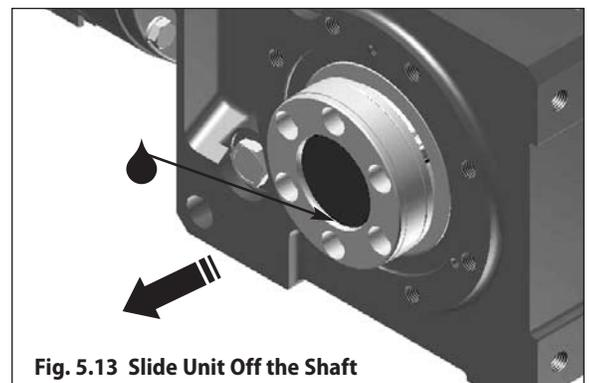

Fig. 5.13 Slide Unit Off the Shaft
**Step 6** – After releasing the bushing, apply a liquid penetrant to the shaft where it contacts the bushing. Allow time for the liquid to penetrate between the bushing and the shaft, then carefully slide the unit off of the shaft. (see Fig 5.13). **Note: If the bushing releases, but the unit cannot be removed from the shaft, apply a puller to the bushing to push the shaft free.**